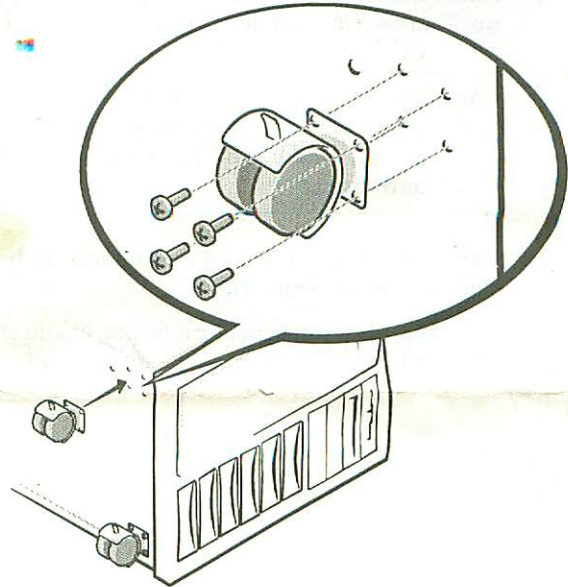

Figure 2. Attaching the Casters
3. Attach a caster to each corner (see Figure 2).